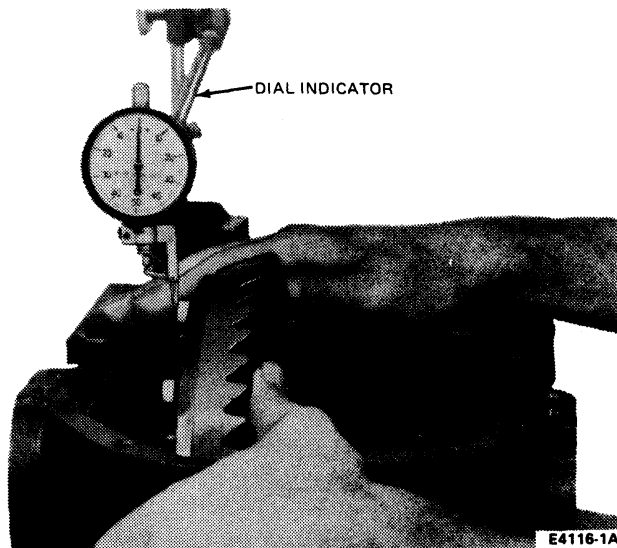

FIG. 18 Checking Differential Case Endplay
- Place the differential case into carrier (without pinion). Mount dial indicator (D78P-4201-B or Tool 4201-C) against the differential case flange as shown in Fig. 18. Force the differential case towards the dial indicator as far as possible and zero the dial indicator with force still applied.